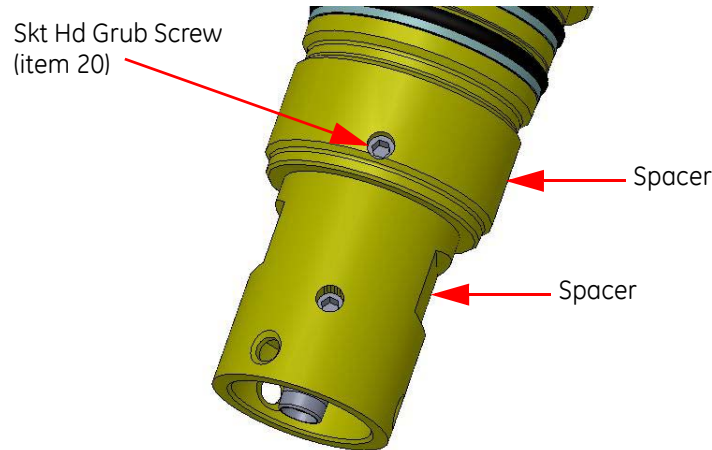

Figure 5-18 Identification of the security screw for the Spacer
- 2 Make sure the In-Line Electronics Chassis Assembly (item 2, 416026) is removed. Refer to Section 5.3.1, Removal.
- 3 Remove and retain the Fischer 3-Way Connector (item 15) from the Spacer (item 8). Refer to Section 5.4.9, Removal of the Fischer 3-Way Connector.
- 4 With reference to Figure 5-18, remove and retain the Skt Hd Grub Screw (item 20) from the Mandrel (item 9) to release the Spacer.
- 6 With reference to Figure 5-18, install the Skt Hd Grub Screw (item 20) to secure in position the Spacer.
- 7 Install the Fischer 3-Way Connector (item 15). Refer to Section 5.4.10, Installation of the Fischer 3-Way Connector.
- 8 When required, install the In-Line Electronics Chassis Assembly (item 2, 416026). Refer to Section 5.3.2, Installation.